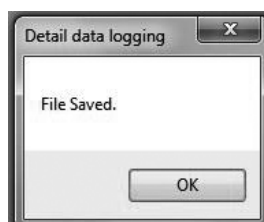

Fig. 3-25
- (8) If you click the  button on the tool bar or "Chart and Recording" - "Recording" - "Stop" from the menu, the logging will stop (terminating the writing process on the file) and the file will be completed. Then the following message box (Fig. 3-25) will be displayed. Click "OK" button.